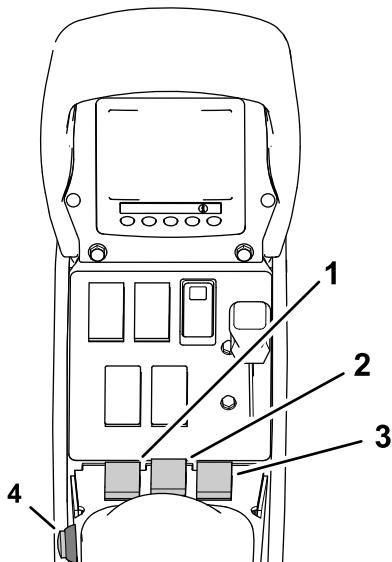

Figure 163
9. Set the 3 section switches (located in the control console of the machine) to the ON position (Figure 162 and Figure 163).